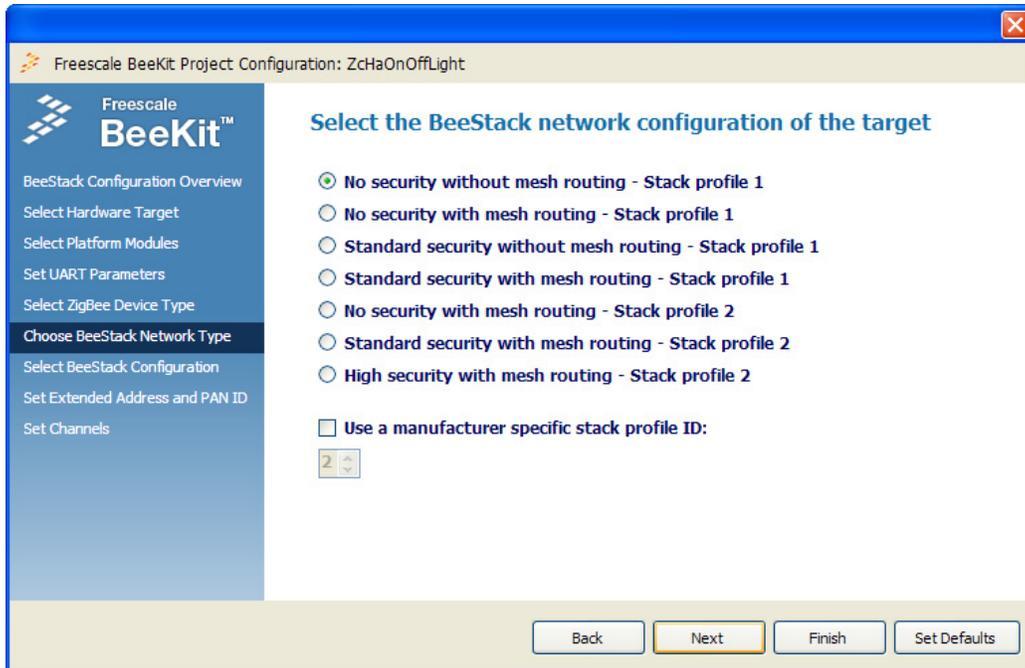

Figure 3-9. BeeStack Network Type Selection Page Codebases
8. Click the Next button. The BeeStack Network Type page appears as shown in Figure 3-9 (ARM7 codebase version).